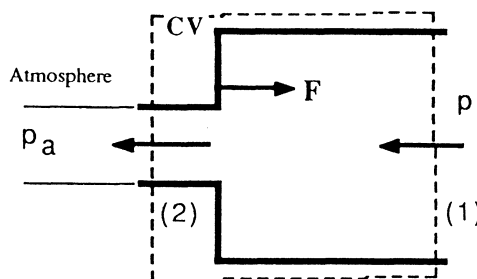

Fig. P3.42
3.42 A liquid of density ρ flows through the sudden contraction in Fig. P3.42 and exits to the atmosphere. Assume uniform conditions (p_1 , V_1 , D_1) at section 1 and (p_2 , V_2 , D_2) at section 2. Find an expression for the force F exerted by the fluid on the contraction.